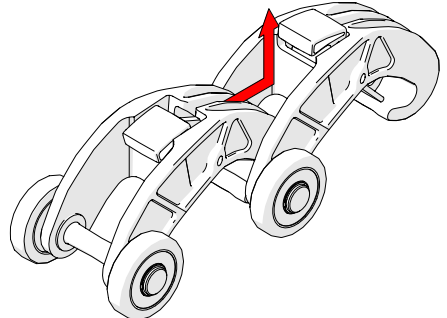

Fig. 49 - Slide link forward and lift
2. While pressing the button, slide the QuickLink forward and up, clearing the hook of the QuickLink from the 2nd link's axle (*Fig. 49*).